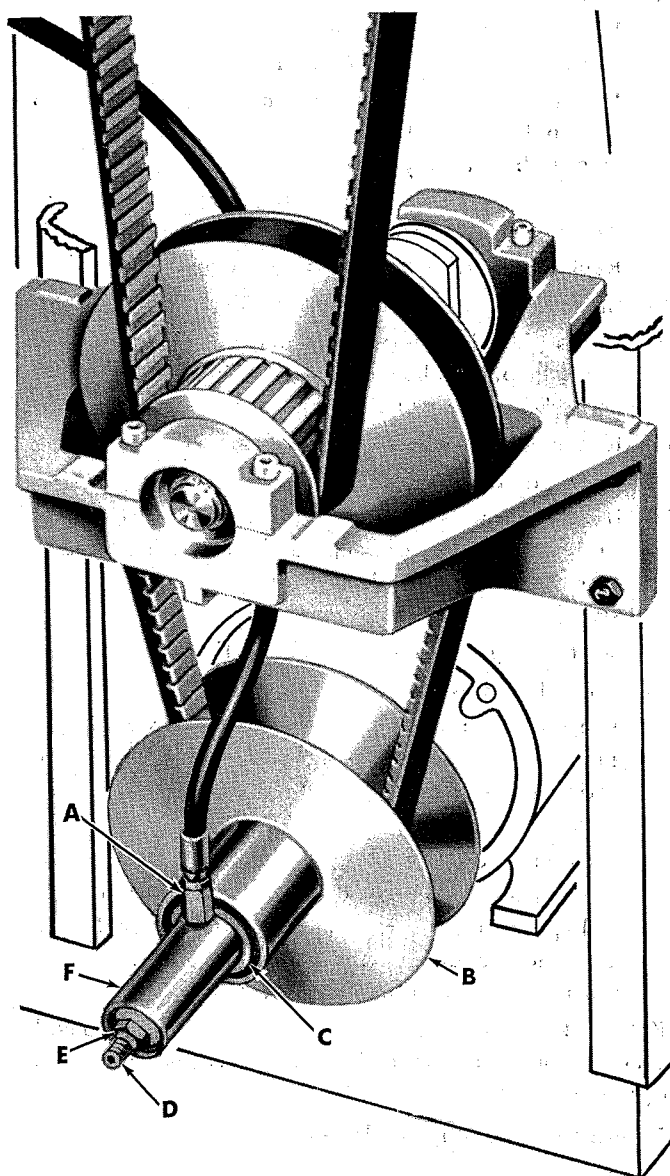

Figure 24
1. Hold nut (E, fig. 24) with wrench, and turn shaft (D) with a socket set screw wrench -- clockwise if speed is too low, counter-clockwise if speed is too high.
2. Measure distance from end of shaft (D, fig. 24) to nut (E). NOTE: *Record this dimension.*
3. Disconnect fitting (A) and drain oil from unit.
4. While holding shaft (D) with a socket set screw wrench, remove nut (E) and washer.
6. Pull hydraulic cylinder (F) and outer half of variable pulley (B) off the shaft (D) and remove stop washer from pulley (B).
7. Press hydraulic cylinder (F) with bearing (C) from variable pulley (B).
8. Replace the two "O" rings on shaft (D).
9. Install stop washer in pulley (B).
10. Press new hydraulic cylinder with bearing into variable pulley hub (B), then slide the assembly onto shaft (D) and pulley hub.
11. Install sleeve and washer on shaft (D).
12. Start nut (E) on shaft (D).